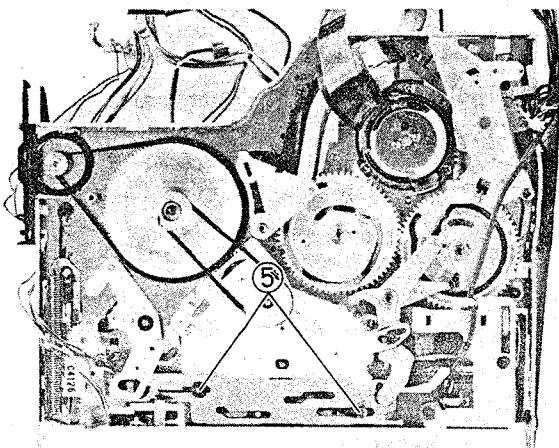

Fig. 2-114 Slider Removal
Slider Removal (Fig. 2-114)
5. Remove one (1) screw and one (1) washer holding the slider. (See Fig. 2-114)
5. Remove the slider. (See Fig. 2-114)